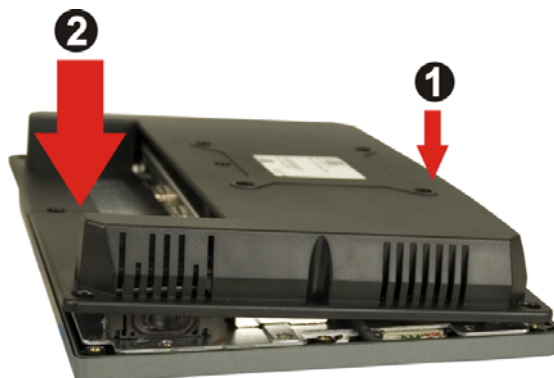

Figure 3-4: AFL-08AH-LX Plastic Back Cover Replacement
Step 4: Replace the plastic back cover. For AFL-08AH-LX, more strength is required when pushing the bottom part of the cover down to the chassis (Figure 3-4).